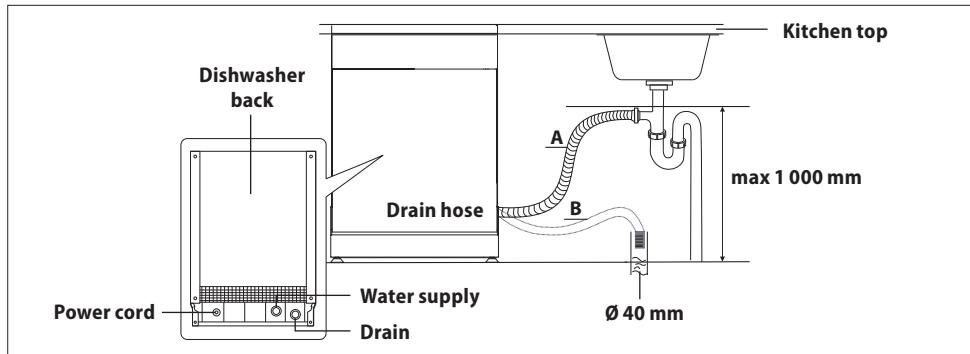

Fig. 20
5. Connect the drain hose according to Fig. 20.
Connect the drain hose to the waste pipe with a minimum diameter: 40 mm (Fig. 20). Make sure the drain hose is not bent or squeezed to prevent slowing down or stopping of the water flow.
The height of the waste pipe must be less than 1,000 mm (Fig. 20) and the drain hose should not be submerged in water. Secure the drain hose properly to prevent unwanted loosing from the waste pipe.